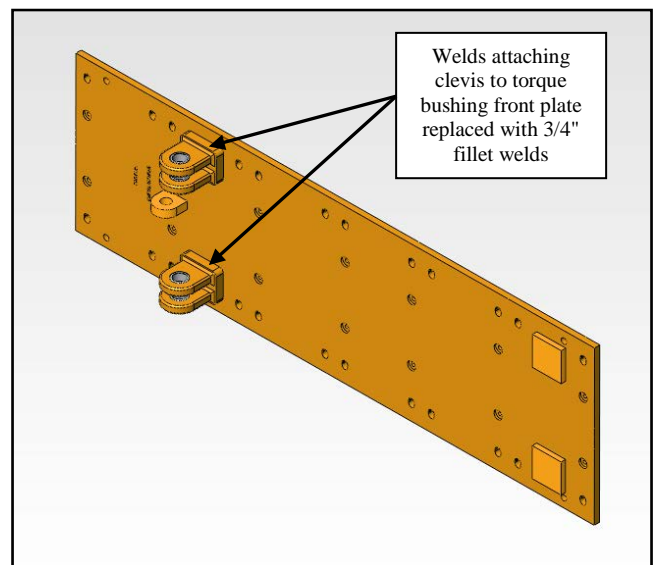

Figure 2: EXI torque bushing front plate
1. The welds attaching the clevises to the torque bushing front plate (TESCO part number 810331, Figure 2) are to be fully ground out and replaced with 3/4" fillet welds under an approved weld procedure for A514 grade material (Quenched and Tempered 100 ksi yield plate) as specified in drawing 810331 Rev4.